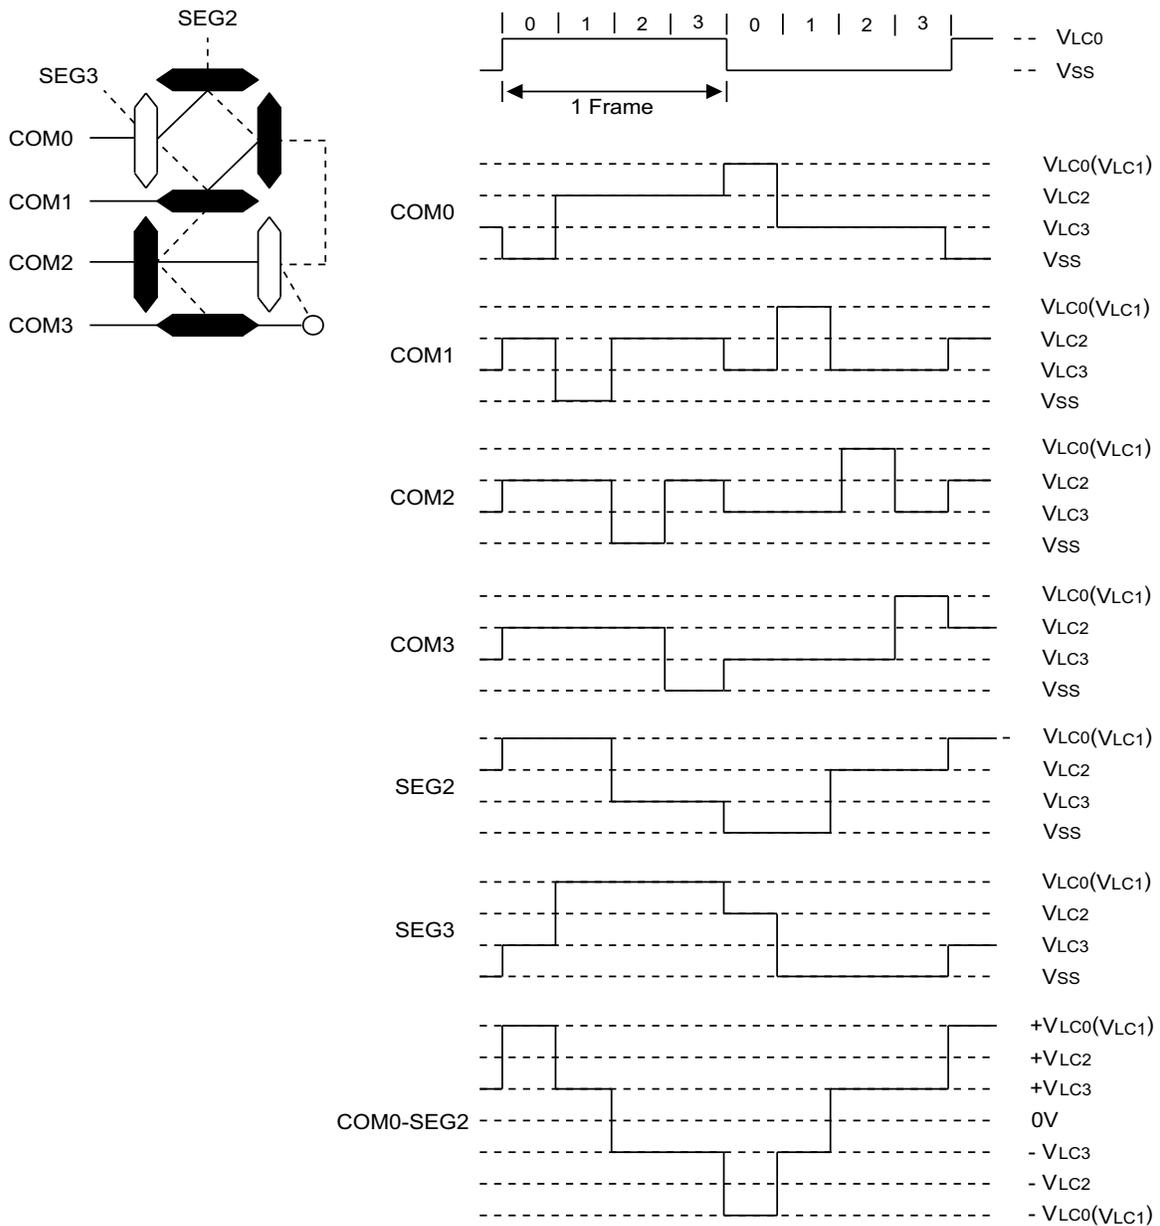

Figure 95. LCD Signal Waveforms: 1/4 Duty, 1/3 Bias
► **Note:** In Figure 95,  $V_{LC0} = V_{LC1}$ .